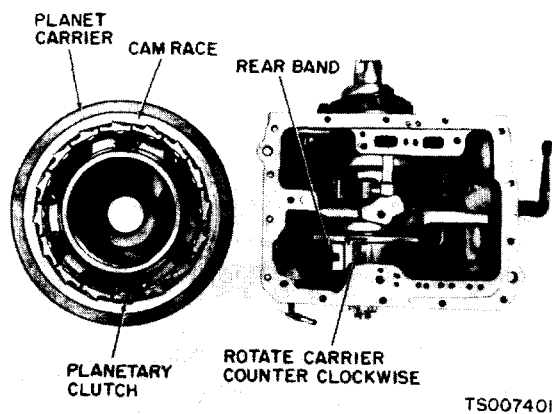

Figure 7-13. Planetary Clutch Installation.
(7) Install the planetary clutch in the carrier (fig. 7-13).
(8) Carefully position the planet carrier on the center support. Move the carrier forward until the clutch rollers are felt to contact the bearing surface of the center support.
(9) While applying forward pressure on the planet carrier, rotate it counterclockwise, as viewed from the rear (fig. 7-13). This will cause the clutch rollers to roll toward the large opening end of the cams in the race, compressing the spring slightly, so that the rollers will ride up the chamfer on the planetary support and onto the inner race.
(10) Push the planet carrier all the way forward.
(11) Check the operation of the planetary clutch by rotating the carrier counterclockwise. It should rotate counterclockwise (viewed from the rear) with a slight drag, and it should lock up when attempting to rotate it in a clockwise direction.
(12) Install the selective thrust washer on the pinion carrier rear pilot. If the end play was not within specifications when checked prior to disassembly, replace the washer with one of proper thickness. Refer to TM 10-3930-633-34P for selective thrust washer thicknesses.
(13) Install the output shaft, carefully meshing the internal gear with the pinions.
(14) With the center support properly assembled, position the rear pump drive key in the keyway on the output shaft.
(15) Position new front and rear gaskets on the pump body. Retain the gaskets with transmission fluid. Then install the rear pump. Be sure the drive key is aligned with the keyway in the pump drive gear.
(16) Position the governor drive ball in the pocket in the output shaft. Retain the ball with transmission fluid.
(17) Install the governor assembly, aligning the groove with the ball in the output shaft.
(18) Install the governor with the governor body plate toward the rear of the transmission. Install the governor snap ring.
(19) Place the four seal rings in the distributor sleeve, and check the ring gap.